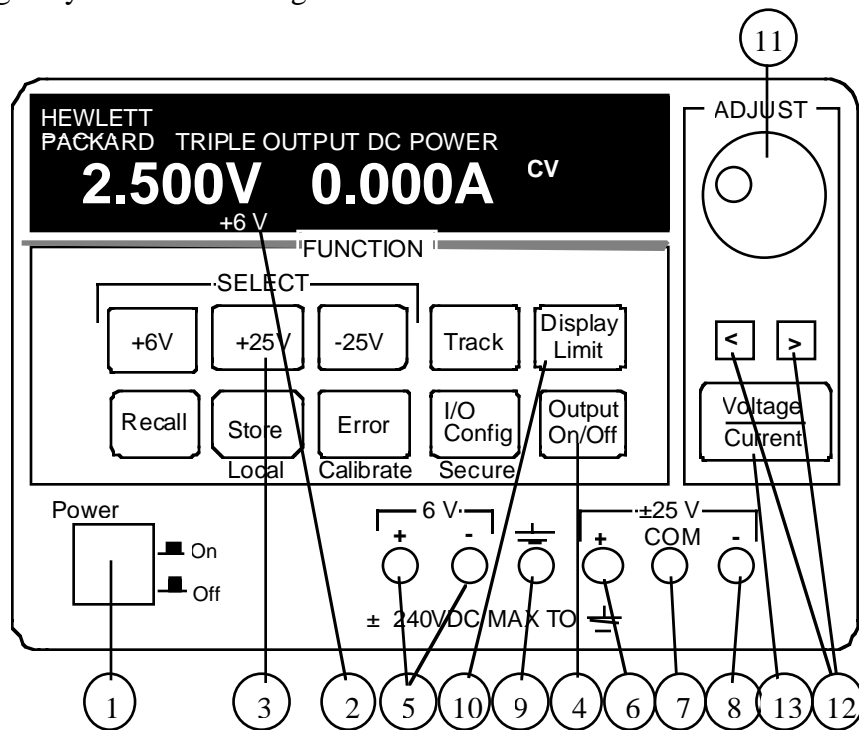

Figure 7. HP Triple Output DC Power Supply
The front panel of the Triple Output DC Power Supply is shown in Figure 7. The supply can produce outputs in the range 0V to +6V, 0V to +25V, and 0V to -25V. The +25V and -25V supplies have a common terminal and all three supplies are isolated from earth (power line) ground, although any terminal can be grounded.
- 1) Get 1.2k $\Omega$ , 8.2k $\Omega$  and 13k $\Omega$  resistors from the Circuits Lab instrument room. Connect banana leads with alligator connectors on one end to the inputs (2) on the DMM. Put the DMM into resistance measurement mode by pressing the  $\Omega$  2W switch (4) on the DMM front panel. Record these values in Data Table 3.
- 2) Build the circuit shown in Figure 9. Start by inserting the three resistors into the breadboard so that they are connected in series as shown. Before connecting the power supply to your circuit, connect the DMM directly to the +25V output and, using it, set the output to 25V. A good practice is to always turn the power supply off using the output on/off switch (4) [in Figure 7] in before connecting it to your circuit. Do so now.